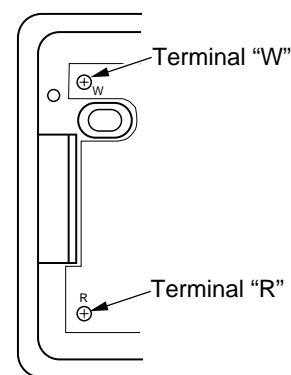

Figure 36 - Thermostat Base Terminal "W" and "R"
7. Connect one bare wire end to each terminal ("W" and "R") of the thermostat base (see Figure 36).